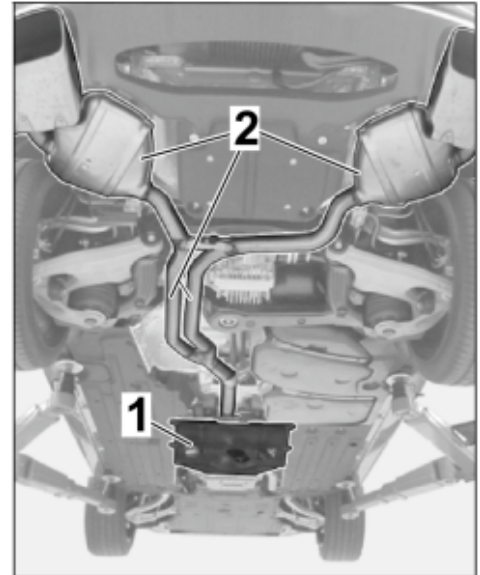

Figure 5
- 1.3.1 Remove tunnel cover on central underbody. ⇒ *Figure 5*, ⇒ *Workshop Manual '519319 Removing and installing cover for central underbody cover'*